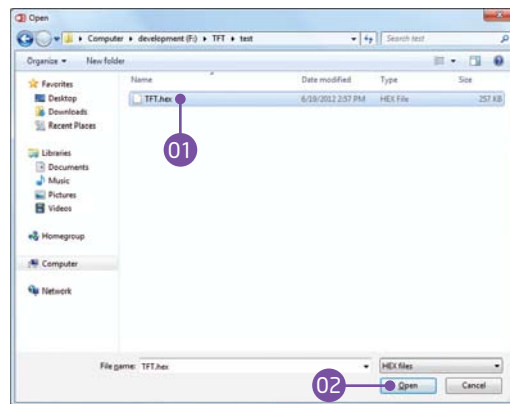

Figure 3-4: Selecting HEX
- 01 Click the **"Browse for HEX"** button and from a pop-up window (**Figure 3.4**) choose the .HEX file which will be uploaded to MCU memory.